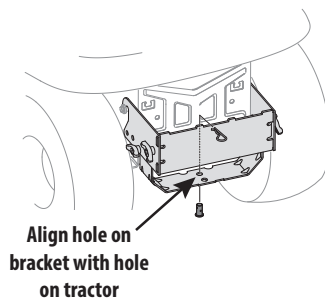

Figure 4
2. Install the clevis pin (711-0309A) from hardware pack 689-02364 into the tractor's hitch and secure with a cotter pin (714-0117). See Figure 4.